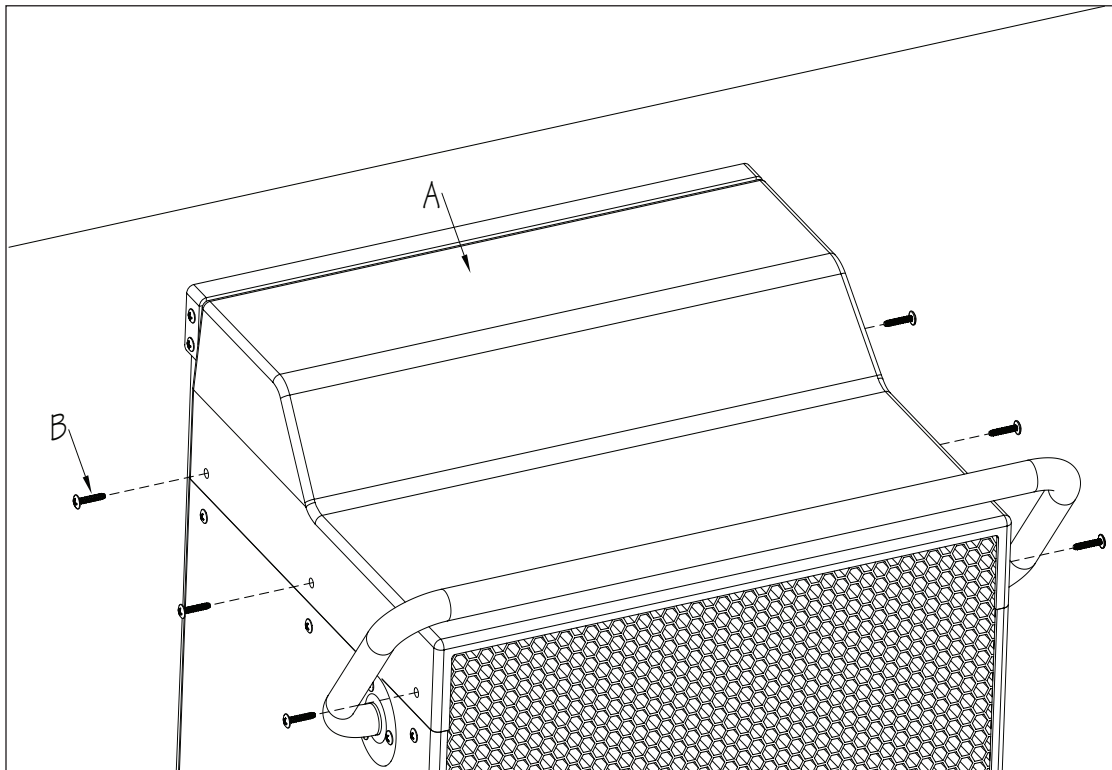

Fig. 13
6. Attach the Top Lid (A) using the 1" Phillips Truss Head Screws (B) (Fig. 13).